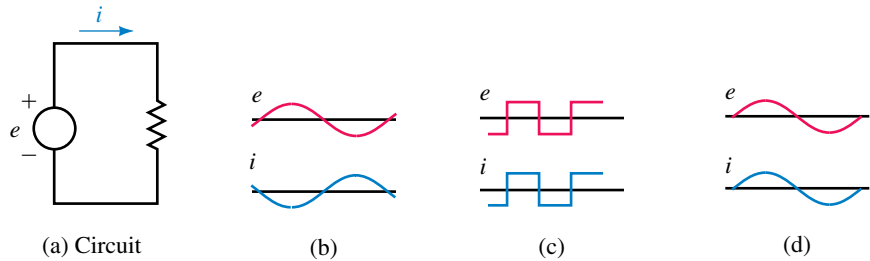

FIGURE 15–20 Which waveform pairs are valid?
5. Which of the waveform pairs of Figure 15–20 are valid combinations? Why?
6. For the waveform in Figure 15–21, determine the frequency.